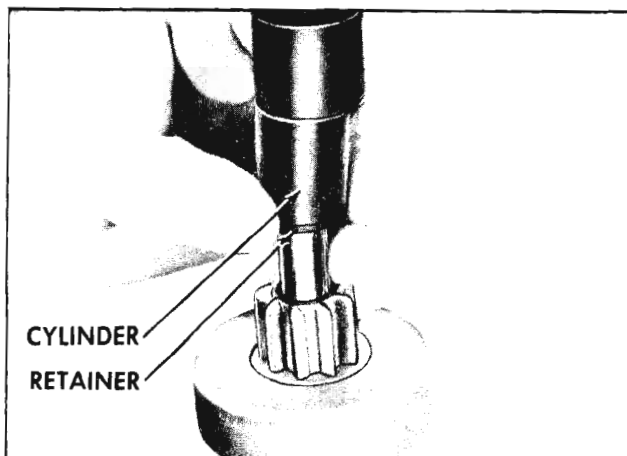

Fig. 14-31 Removing Pinion Retainer
- b. Slide a standard half-inch pipe coupling or other metal cylinder of suitable size (an old pinion can be used if available) over shaft against retainer to be used as a driving tool. (Fig. 14-31) With armature shaft supported on wood block, tap end of driving tool until retainer clears snap ring.